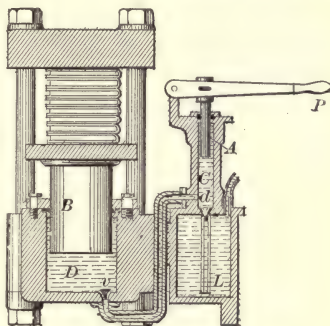

FIG. 46. — Hydraulic press.
53. Applications of the hydraulic press. This device of Pascal gives us an easy way of exerting enormous forces, such as are needed in baling paper, cotton, etc., in punching holes through steel plates, and for extracting oil out of seeds. The commercial machine (Fig. 46) is exactly like that described by Pascal except that there is usually a check valve (*v*) between the small piston and the big one, and the small piston is arranged to work like a pump, with a valve (*d*) at the bottom for admitting more oil. Often the small piston is forced down by a lever. The method of operation is simple. On the upstroke of the pump piston, the valve at the bottom of the pump opens and oil flows in from the reservoir. On the downstroke of the pump piston, the oil is forced over through the connecting pipe past the valve, and pushes the large working piston up very slightly. If the large piston is 100 times as large in cross section as the small piston (*i.e.* diameters as 10 : 1), the large piston is lifted only $\frac{1}{100}$ the distance the pump piston is pushed down each stroke. But since the force exerted by the large piston is, neglecting friction, 100 times that applied to the small piston, it follows that the work done on the machine is equal to the work done by the machine. If we consider the work done against friction, the equation becomes, —